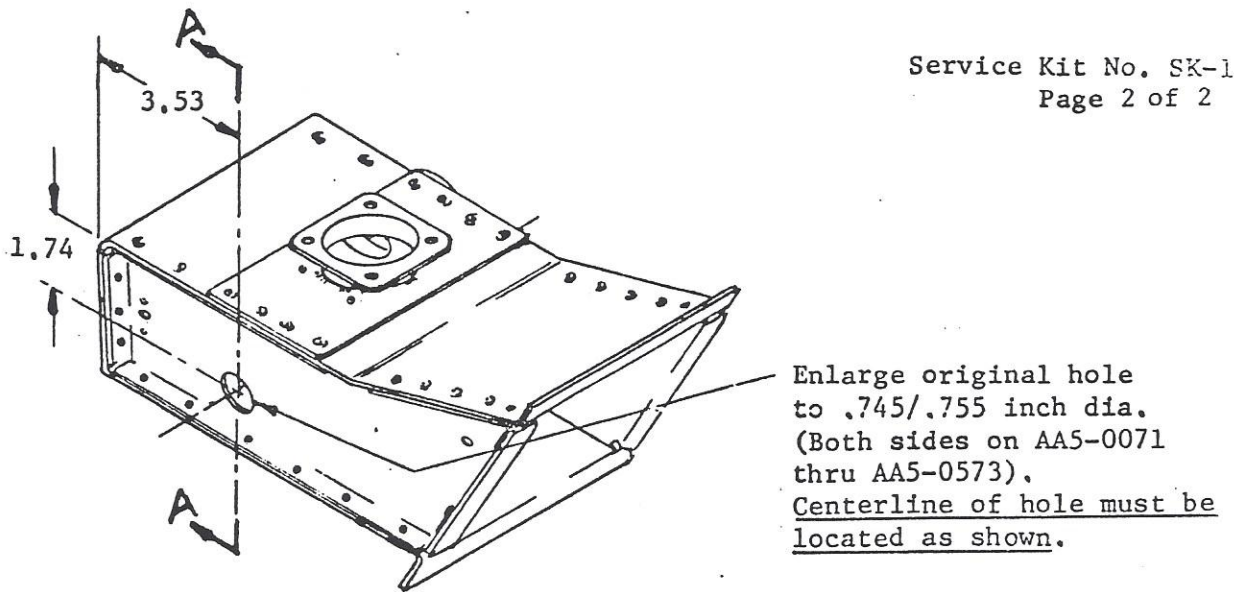
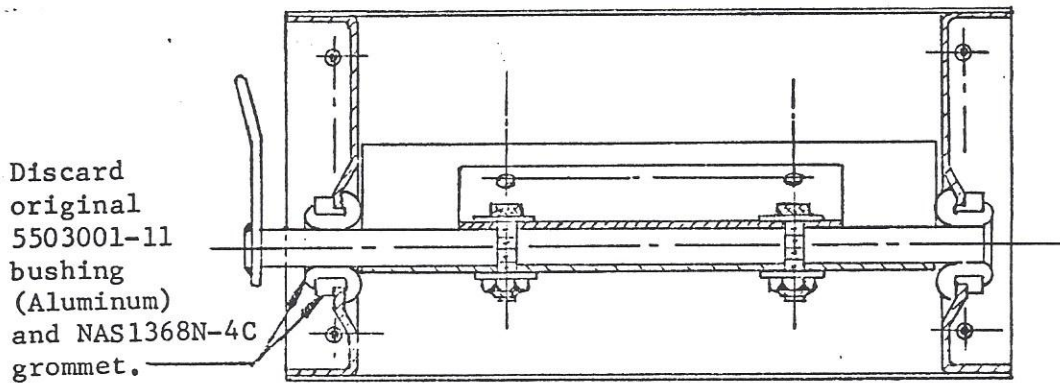
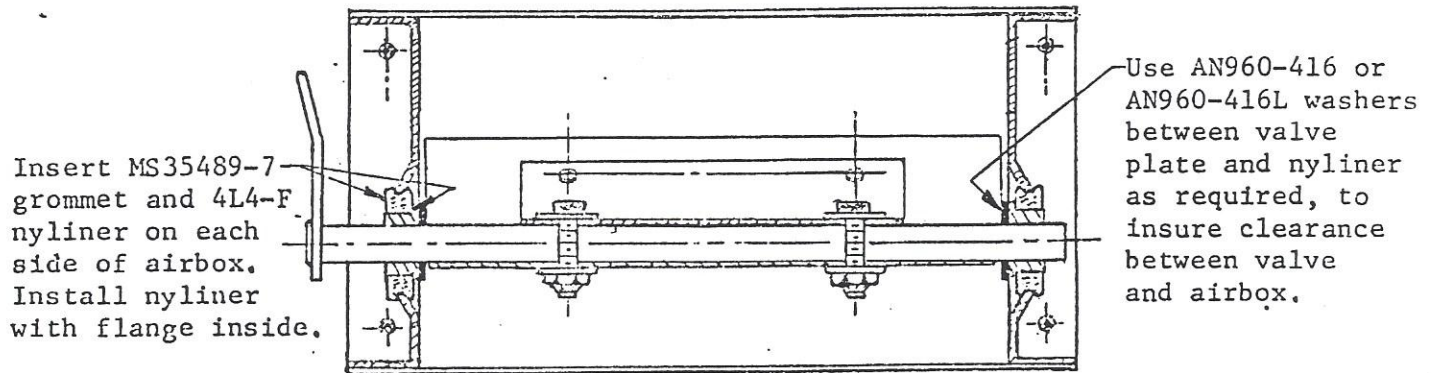

Figure 1. Airbox Bearing Hole location.
Figure 2. Section AA - Original Airbox Design with valve and bearings installed. (AA5-0071 thru AA5-0573)
Figure 3. Section AA - Airbox with Valve and Bearings installed.
- a.) On AA5-0071 through AA5-0573, remove the bearing and bearing retaining collar that is swaged in each side of the airbox and discard (See Figure 2). Open up the remaining hole to .745/.755 inch diameter. Be sure hole centerlines are located as shown in Figure 1, to assure proper valve operation.
- b.) On AA5-0574 and on, remove the original MS35489-7 grommets (2) and 4L4-F nyliners (2).
4. Install the new MS35489-7 grommets (2), and 4L4-F nyliners (2), as shown in Figure 3. Install the 4L4-F nyliners with the shoulder on the inside.